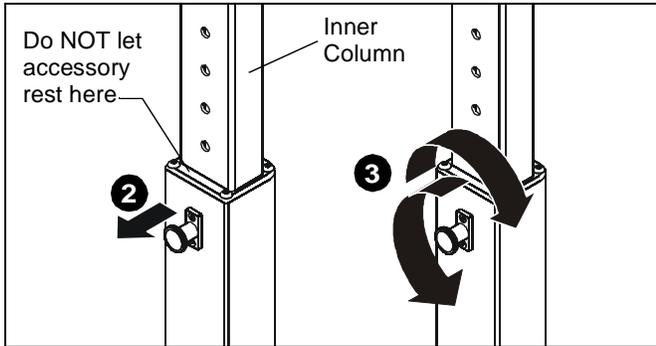

Figure 7
2. Adjust the stand to the desired height by slightly lifting the accessory, pulling out knob on the upright and turning 90° in either direction to disengage the locking mechanism. (See Figure 7)
3. Raise or lower the inner column, then turn the knob 90° either direction to engage the knob and lock the stand at desired height. (See Figure 7)
IMPORTANT ! : Set the height of the stand so the accessories do NOT rest on the upper part of the outer column. (See Figure 7) Always set the height so the knob is engaged in a hole in the inner column.